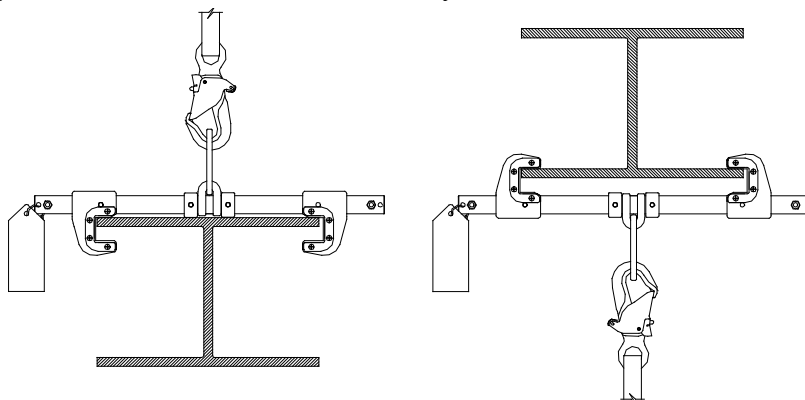

Figure 5 – Acceptable Use Arrangements
For installations where the Traveling Beam Anchor Clamp will be attached to the top flange of an I-beam (as shown in the left diagram of Figure 5) extreme caution must be used. Attachment in this manner can expose a worker walking on top of a beam to a free-fall greater than 6-ft. Such a fall requires a Force II shock absorber that has been designed to absorb the energy created in free-falls greater than 6-ft. Standard shock absorbers and self-retracting lanyards that limit fall arrest forces to 900-lb. MAF **MUST NOT** be used in such situations. For this application Reliance produces its' Black Max™ Shock Absorbing Lanyard that can be used in either 6-ft. or 12-ft. free-fall applications and is compatible for use with this beam clamp whether it is attached to the top or bottom flange of a beam. Please contact Reliance Engineering for further information on proper applications at (303) 424-8650.